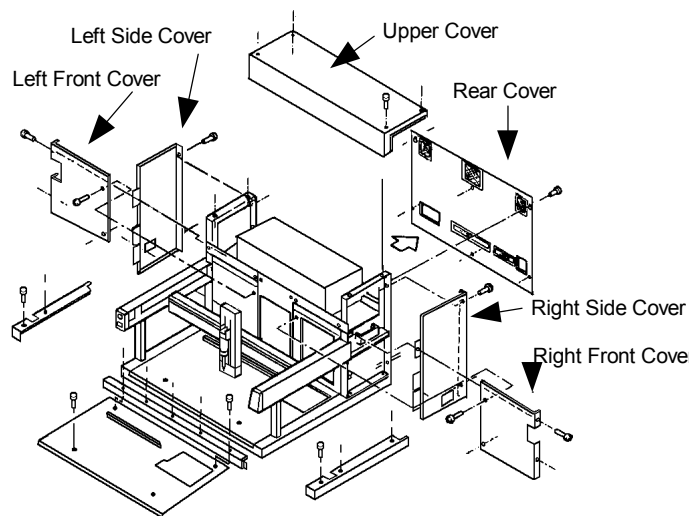

Figure 5-1. FPC Cover Locations
| Figure 5-1. | FPC Cover Locations | 5-2 |
4. Remove the Rear Cover by removing the six screws holding it in place. It is not necessary to completely remove the upper right and upper left screw; only loosen them so that the cover may be lifted up and over the two screws. Refer to Figure 5-1.